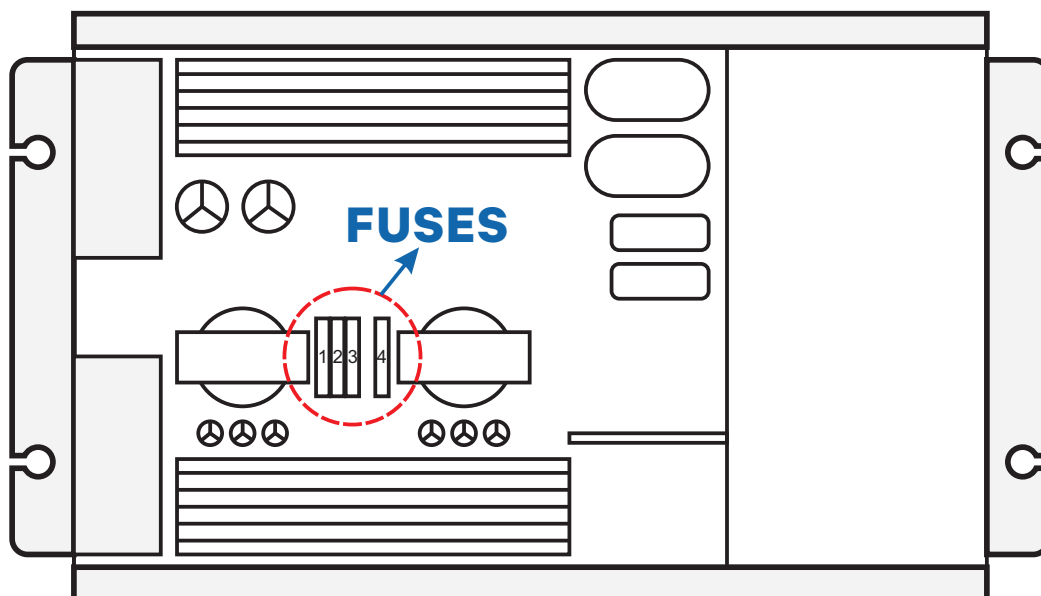

Figure 2.
5. Using nipper pliers or a similar tool, gently pull out the fuse(s) to be replaced (see Figure 2.).